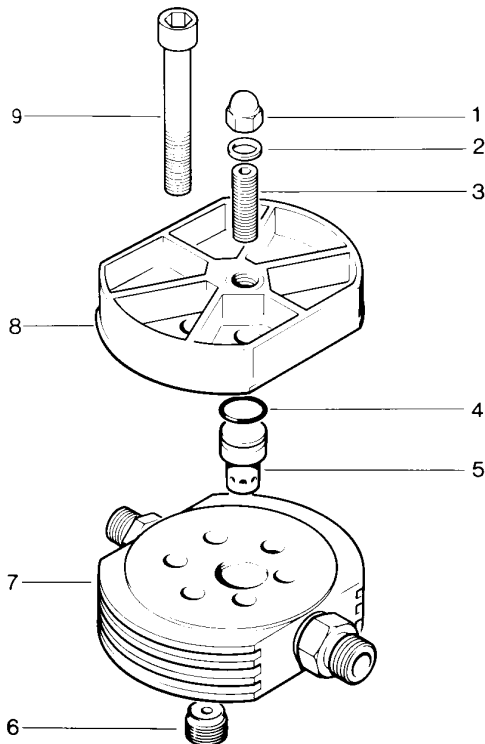

Fig. 26 Valve head 4th/5th stage
Pressure valve (5, Fig. 26) is merely inserted into valve head (7). It is sealed by O–ring (4) and fixed to the valve head by stud (3).